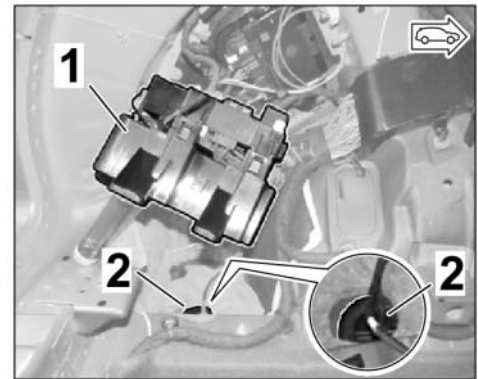

Figure 21
3.3.1 Loosen fuse box with holder in left rear boot and swivel it aside (⇒ *Figure 21*). ⇒ *Workshop Manual '978409 Loosening and securing fuse box in the boot'*